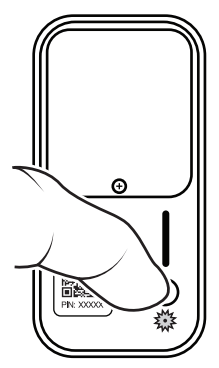

FIGURE 1
- Press and release the programming button. This starts the manual add process. The LED flashes blue quickly as the add process begins (see Figure 1).